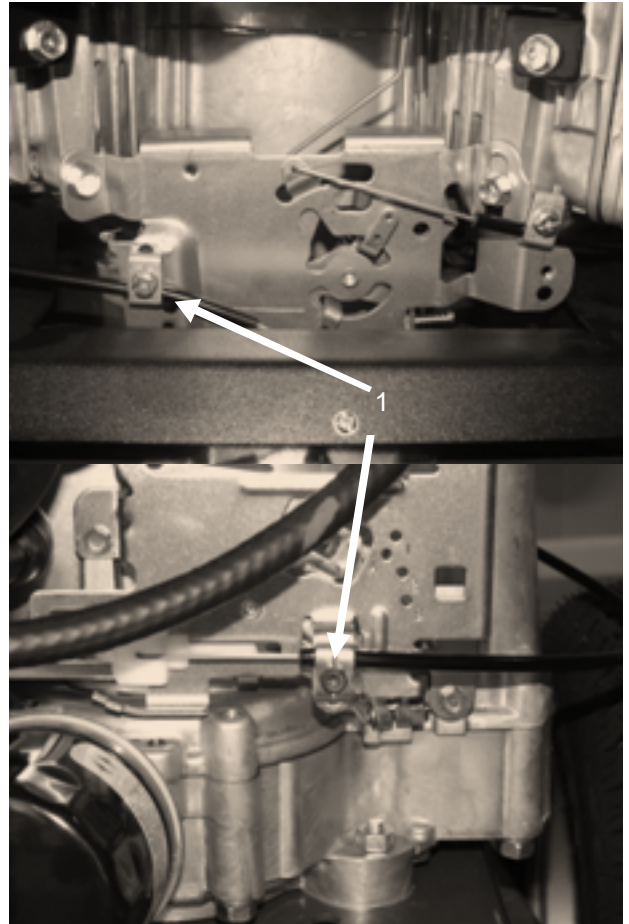

Figure 54
1. Using a 5/16 socket, loosen the cable clamp and remove cable end **Figure 54**.